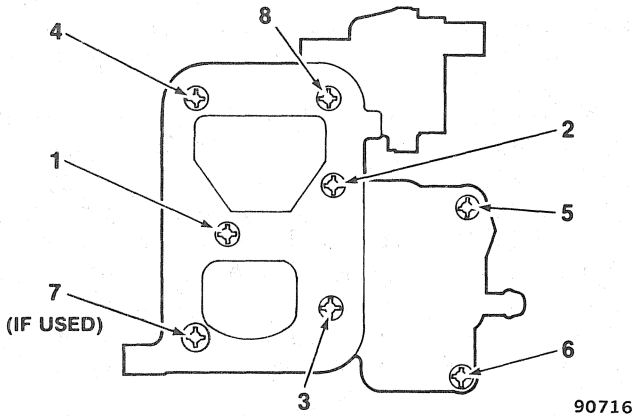

Fig. 1J-89 Carburetor Model E2SE—
(35) If not tested previously, test mixture control solenoid for sticking, binding and leakage following procedure listed within Cleaning and Inspection. Install replacement rubber seal on mixture control solenoid stem. Position seal up against boss on solenoid stem. Using 3/16-inch socket and small hammer, carefully drive retainer on stem (fig. 1J-90). Drive retainer on stem only far enough to retain rubber seal on stem. Leave small clearance between retainer and seal to allow for seal expansion.